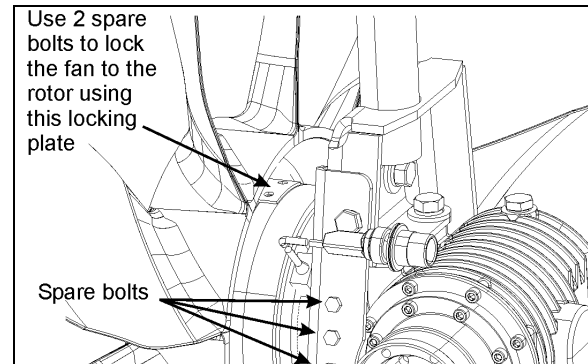

FIGURE 31: MECHANICAL LOCKING
- Screw in and tighten the spare bolts (Fig. 31).